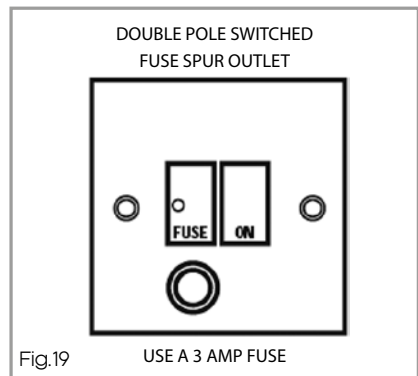

Fig.19
3. Remove the securing screw at the left hand side of the burner, as shown in fig. 19.